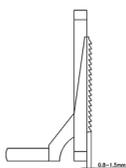
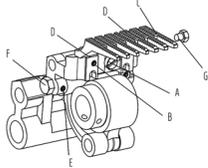

图27 (Fig.27)
图28 (Fig.28)
送布牙(C)升至最高点时，送布牙齿顶与针板面的距离为0.8-1.5mm，平均为1.2mm。(图27)
送布牙的调整: (图28)
- 3.将高度固定销(D)的固定螺钉(B)松开，调整固定销直到送布牙的底部再锁紧螺钉(B)。(图28)
When feed dogs (C) move to the highest position, the distance from the tips of feed dogs to the face of Needle plate is 0.8-1.5mm. The average is 1.2mm (Fig.27). For adjustment: (Fig.28)
1. Loosen screw (A) on Feed Dog (C).
2. Move Feed Dog (C) up and/or down to meet above requirement then tighten screw (A).
3. Loosen screw (B) and move stop pin (D) upward to the bottom of Feed Dog (E), then tighten screw (B) (Fig.28)
送布牙上升至最高时应与针板平行(图27)。调整:
夹紧螺栓(F), 将螺帽(G)放松, 调整送布牙螺钉(E), 使送布牙(C)与针板平行(图28)再锁紧螺帽(G)。
When the feed dogs are at the highest position they should be parallel to Needle plate surface (Fig.27). For adjustment:
Holding screw nut (F) firmly and loosen screw (G) then to adjust screw (E) for the teeth surface of Feed Dogs, is paralleled needle plate (Fig.28)